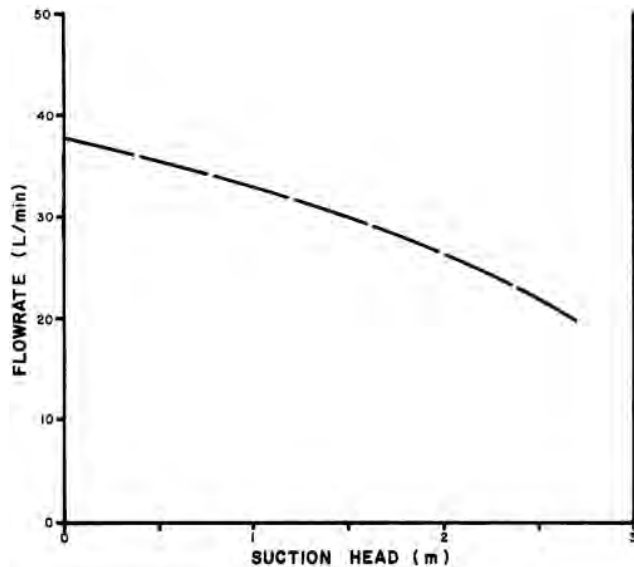
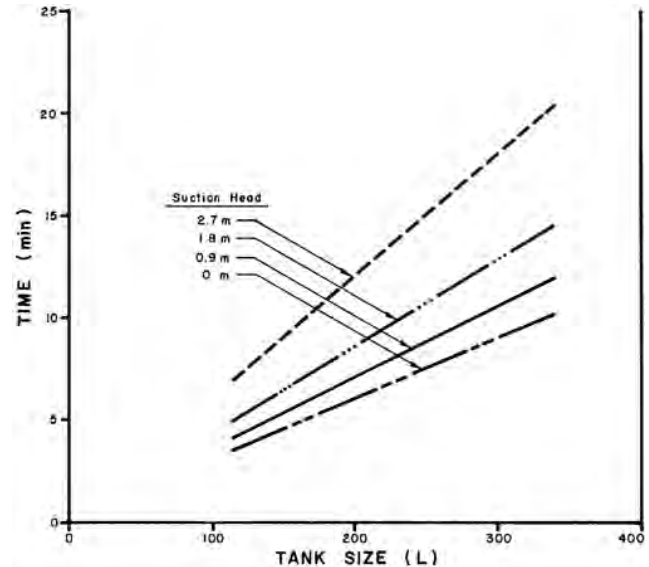

FIGURE 3. Pump Performance Characteristics with Diesel Fuel at Various Suction Heads at an Engine Intake Manifold Vacuum of 64 kPa.
FIGURE 4. Time Required to Fill Different Sized Tanks at Various Suction Heads with Pump Operating at an Engine Intake Manifold Vacuum of 64 kPa.
**Flowrates:** Pump performance characteristics with diesel fuel over a typical range of suction heads are given in FIGURE 3.
Suction head is the distance the pump body is held above supply tank fuel level. FIGURE 3 shows maximum flowrates at a typical truck engine intake manifold vacuum of 64 kPa (9.3 psi). The Vac-U-Fil must evacuate the fuel tank being filled before steady flow occurs. FIGURE 3 shows flowrates after full operating vacuum was reached.
Maximum flowrate was not obtained until the normal tank operating vacuum was reached. Normal operating vacuum was dependent on suction head and varied between 25 and 29 kPa (3.6 and 4.2 psi). The time required to reach the normal operating level and maximum flowrate was dependent on both suction head and tank size. FIGURE 4 shows the time required to fill various sized tanks at various suction heads when taking pump-down time into consideration. For example, considering pump-down time, it took about 8 minutes to fill a 225 L (50 gal) tank with 0.9 m (3 ft) suction head, instead of 6.9 minutes as calculated from the maximum flowrates given in FIGURE 3.